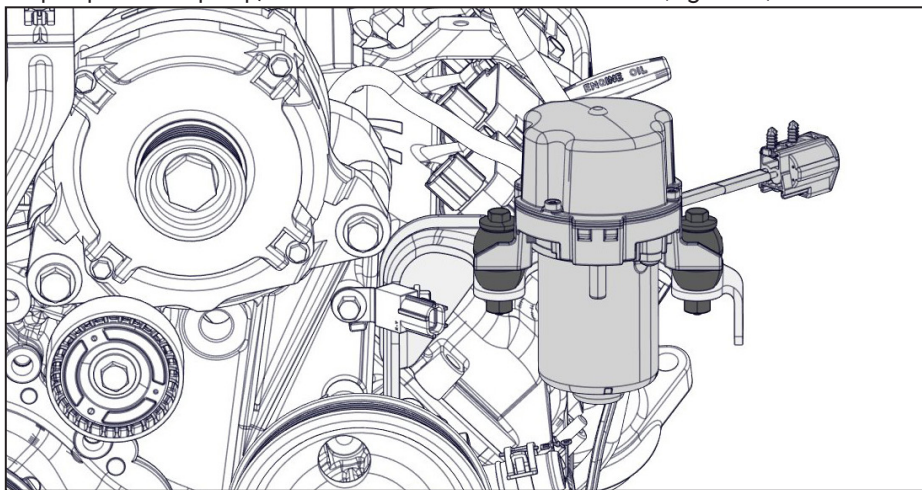

Figure 10 — Remove vacuum pump
- ☐ **Vehicles equipped with vacuum pump only:** Disconnect and remove the vacuum pump. Set the pump, fasteners and rubber mounts aside. (Figure 10).